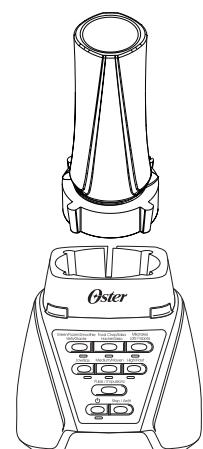

Figure 2
- Place cup assembly onto Blender base. (See Figure 2)